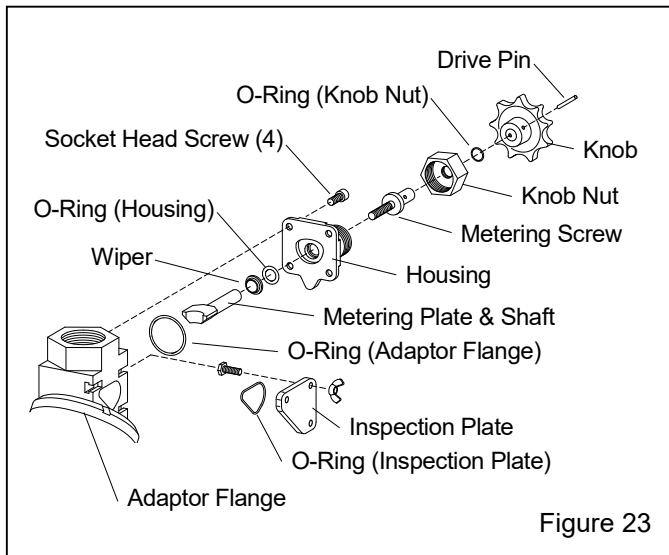

Figure 23
8.12.1 Metering segment – Figure 23